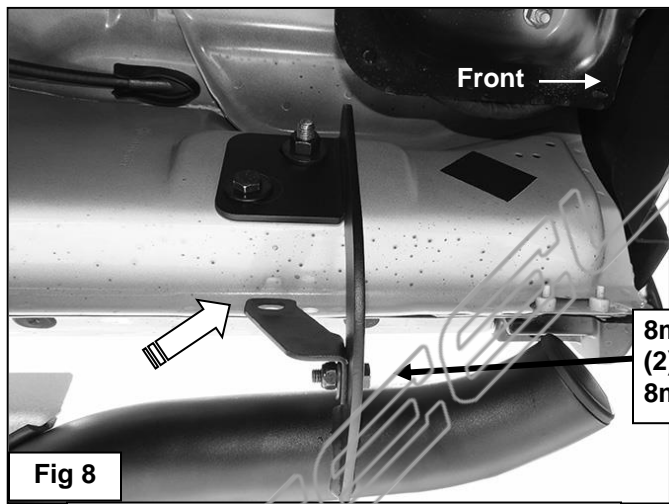

Fig 8
6. Move to the front Bracket location. Select (1) Driver/left Support Bracket, **(Figure 7)**. Bolt the bent end of the Bracket to the back of the Mounting Bracket with (1) 8mm Hex Bolt, (2) 8mm Flat Washers and (1) 8mm Nylon Lock Nut, **(Figure 8)**. Line up the flat end of the Support Bracket with the back of the pinch weld. Leave hardware loose at this time. Repeat this Step to install the center and rear Support Brackets.
- a) Adjust Mounting Brackets up or down to level the Running Board. Mark the location of the hole in the Support Bracket onto the back of the pinch weld, **(Figure 8)**. **IMPORTANT:** Make sure that you do not mark or drill too close to the edge of the pinch weld.
- c) Move the (3) Support Brackets out of the way. Use a 5/16" (or 8mm) drill bit to drill through the pinch weld for all (3) Support Brackets. **IMPORTANT:** Do not drill for Support Brackets until after the Running Board has been completely installed and adjusted.